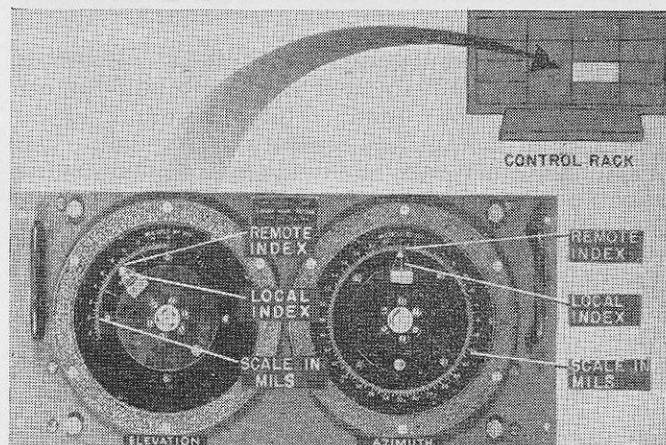

FIGURE 10.—Antenna position indicator unit (BC-1076).
■ 12. TARGET DESIGNATION DIALS.—Two target designation dials are provided on the control rack of the SCR-584, one for azimuth and one for elevation (angular height). These are located on the antenna position indicator unit. This unit contains four selsyn receivers, which position indices on the azimuth and elevation antenna position indication dials on the front of the panel. The inner (remote) index of each dial indicates the azimuth and elevation transmitted from the director. The outer (local) index of each dial indicates the azimuth and elevation of the antenna of the SCR-584. The matching of the two indices indicates that the radio set and the director are tracking the same target. (See fig. 10.)